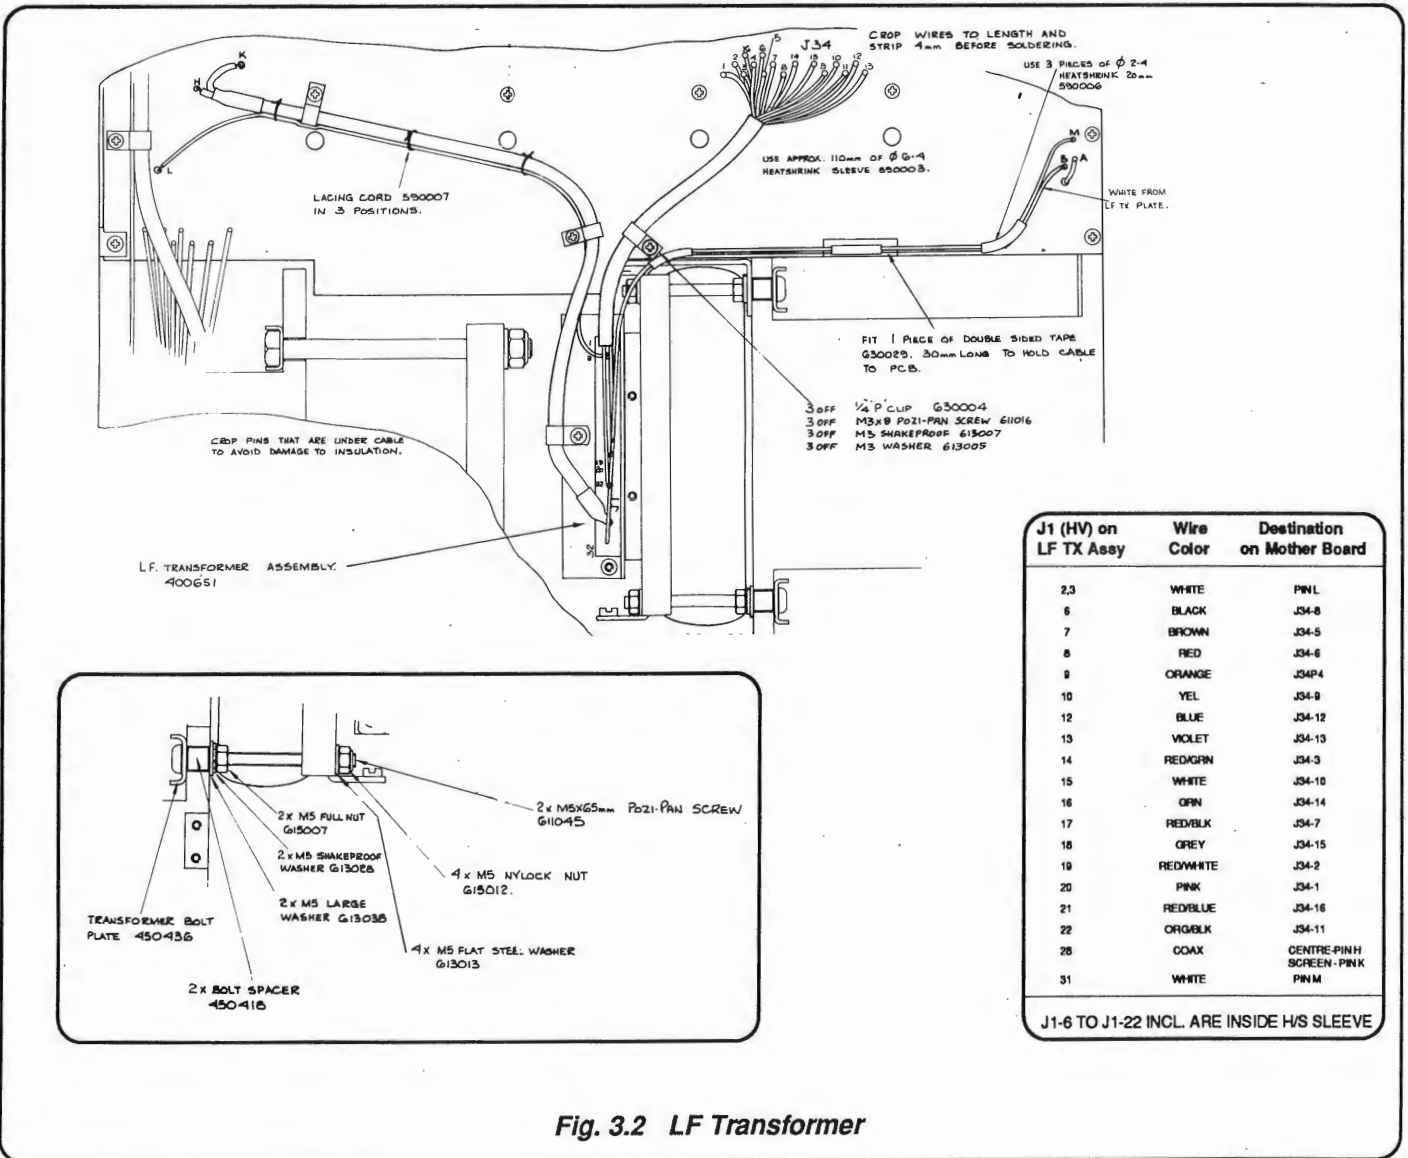

Fig. 3.2 LF Transformer
- Disconnect connector J4 from the Power Amplifier and J3 from the High Voltage Assembly (see Fig. 3.2).
Reverse the removal procedure, referring to Fig. 3.2 and Page 11.15-2 Detail 1 to 4.